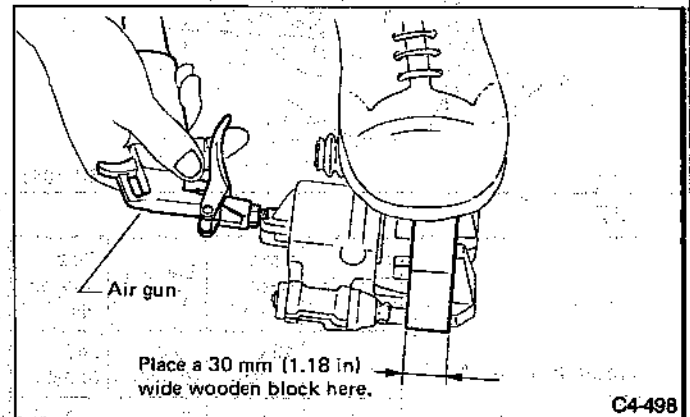

Fig. 74
a. Place a wooden block as shown in Fig. 74 to prevent damage to piston.